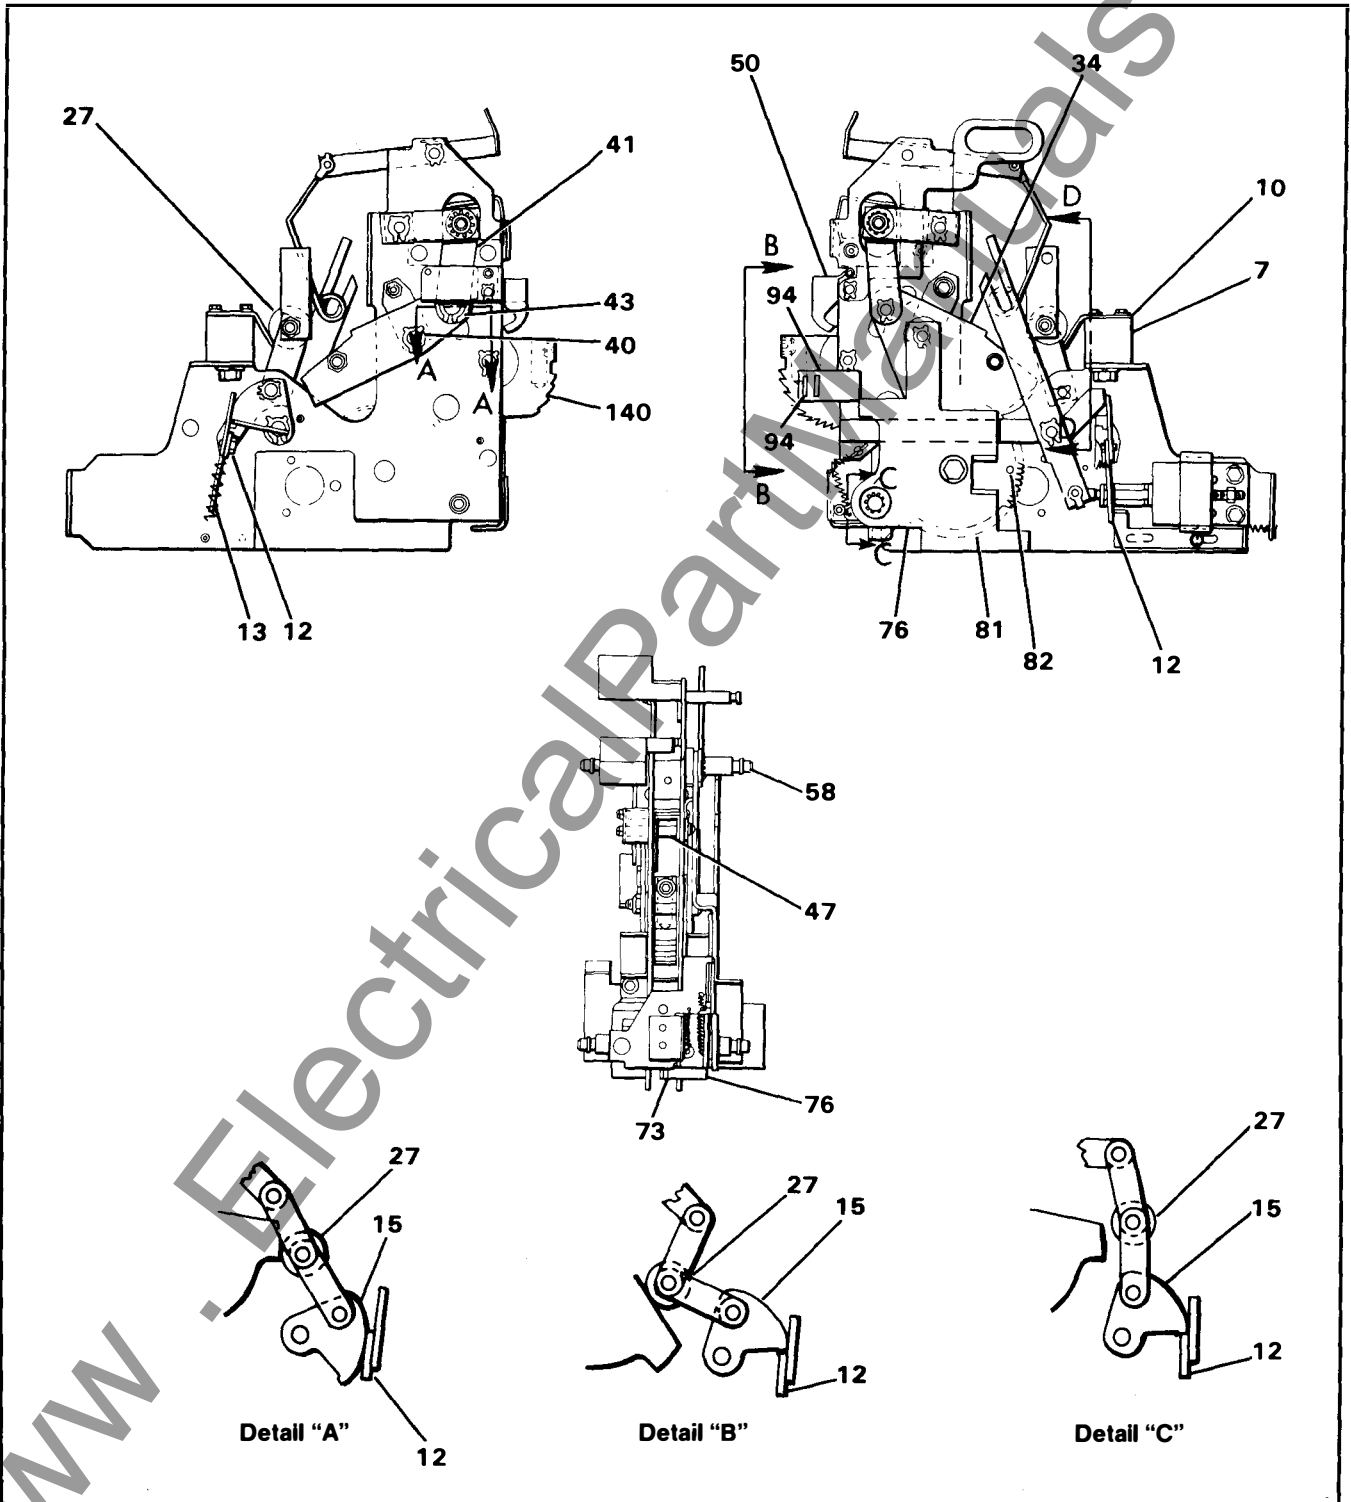

Figure 1. Circuit Breaker Operator
The breaker has a center-mounted frame so many of the latches and links are arranged in pairs. For descriptive purposes, they will be referred to as single items. Refer to **Figure 1** and **Table 1**. Detail (A) shows the position of the trip latch and toggle linkage when the circuit breaker is open and the closing springs are discharged.
the manual charging handle is replaced by a motor and gear system. Refer to **Figure 1, Table 2**. Power available to the control circuit will start the automatic charging cycle. The motor gear box pinion rotates gear (81) counterclockwise. Cam follower (82) engages an arm of wind and close cam (34), which rotates the cams in the same manner as for the manually charged circuit breaker. When the wind and close cam (34) reaches its charged position, the back of the cam engages switch lever (73), rotating the lever away from the switch operator. Gear switch lever (76) will still be holding the switch in the operate position and the motor will continue to run until the roll pins on the side of gear (81) lifts lever (76) clear. This releases the motor cut-off switch (MCO). When the MCO switch opens, the motor stops, and the closing coil circuit is set up through one side of the MCO switch.
Trip Latch Engagement (See **Figure 1**)